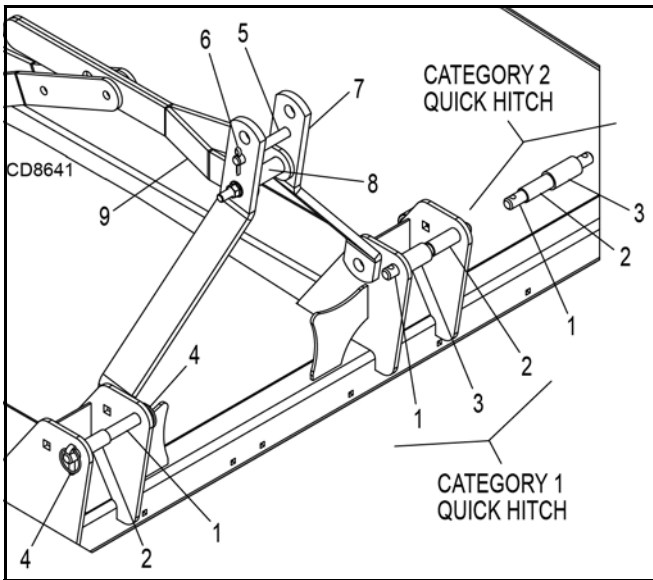

Figure 2. DS8.30 Standard and Quick Hitch Connection
2. Insert lower hitch pins (1) through mast plates and tractor lower lift arms. Use sleeves (2) to keep lift arms in position. Secure with 7/16" klik pins (4).
3. Connect the tractor top link to the cutter A-frame using the middle holes and 3/4" pin (5), cotter pin (6), and 1/4" klik pin (7). See Figure 2.
2. Insert lower hitch pins (1) and 1-1/8" OD sleeves (2) through mast plates and tractor lower lift arms. Use sleeves (3) to keep lift arms in position. Secure with 7/16" klik pin (4).
3. Connect the tractor top link to the cutter A-frame using the top holes and 1" pin supplied with tractor top link. See Figure 2.
1. Insert lower hitch pins (1), 1-1/8" OD sleeves (2), and 1-7/16" OD sleeves (3) through mast plates. Secure with 7/16" klik pins (4). Note the sleeve orientation in Figure 2.
2. The upper hook on quick hitch will engage 1-1/4" sleeve (8) between break links (9).